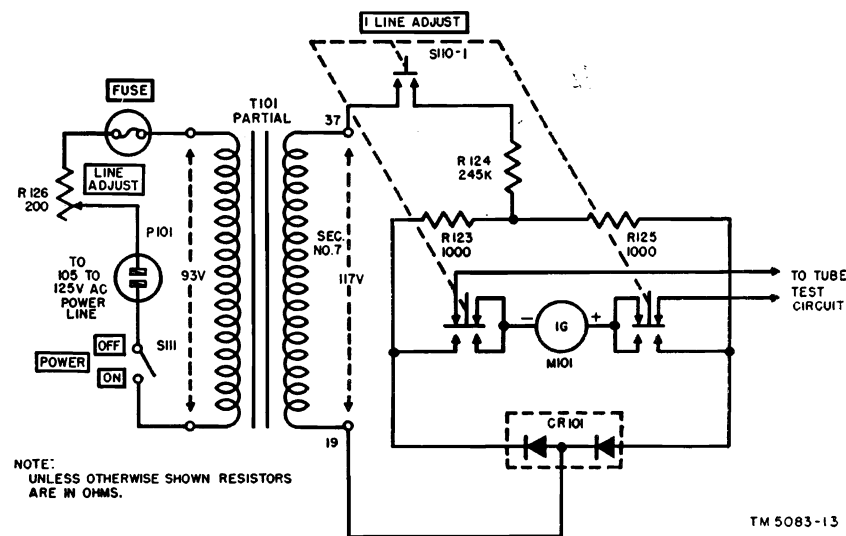

Figure 14. Simplified line voltage test circuit.
- (2) Secondary No. 7 of power transformer T101 consists of a multitapped winding designed to supply the various filament or heater voltages for the tubes under test. Voltages shown on figure 14 are measured under load. No-load voltages will be somewhat higher. For example, no-load voltage measured from point 19 to point 37 will be approximately 121 volts with 93 volts on the primary. Secondary No. 7 also supplies voltage for rectifier emission tests.
- (3) Secondaries No. 1 and No. 2 supply approximately 154 volts ac to the plates of the type 83 tube (V101) which supplies
b. Line Voltage Test Circuit (fig. 14).